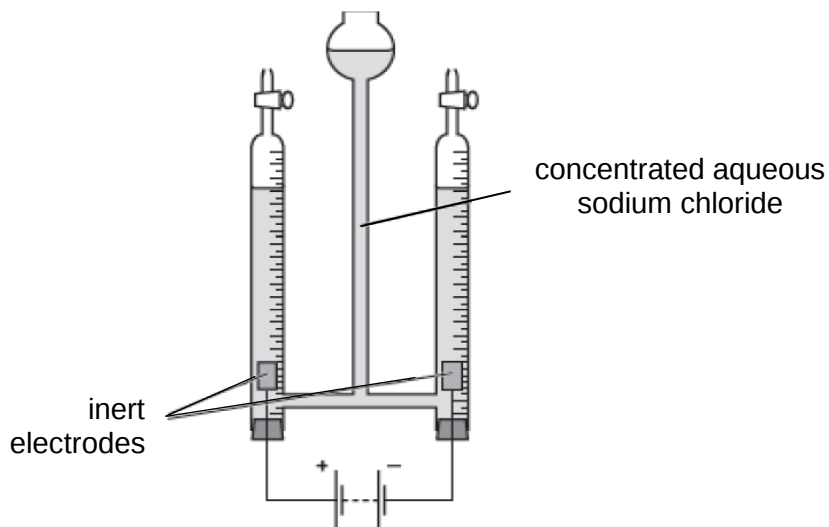

Fig. 12.1
- 12** An electrolysis experiment was carried out using inert electrodes as shown in Fig. 12.1.